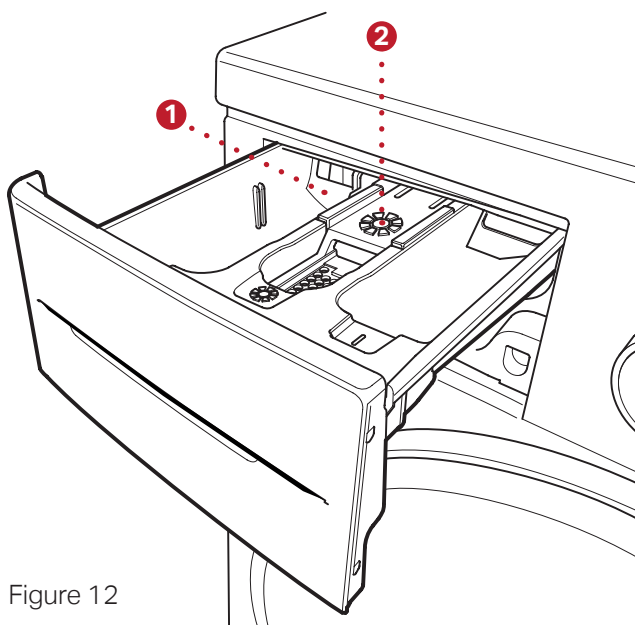

Figure 12
- 2 Press down on the release catch (see Figure 12) and gently pull the drawer away from the Washer Dryer.
The Siphon Plug can be found in the softener  compartment of the detergent drawer (see Figure 12). We recommend cleaning the plug at regular intervals.